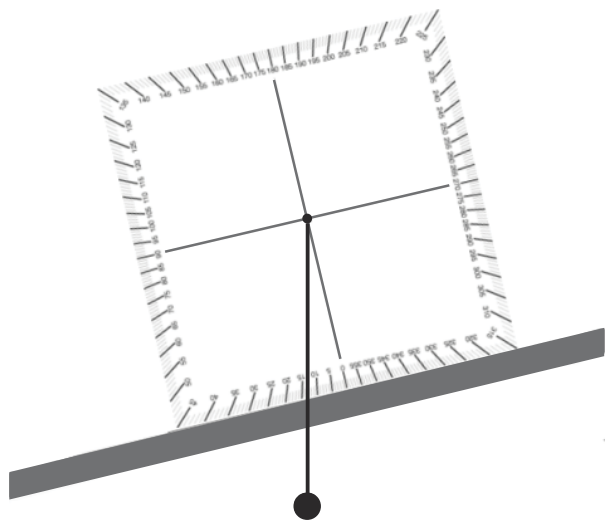

Figure 1-2. Protractor Method.
- Read the azimuth degree scale where the string intersects it, which indicates the angle of the slope. See figure 1-2.